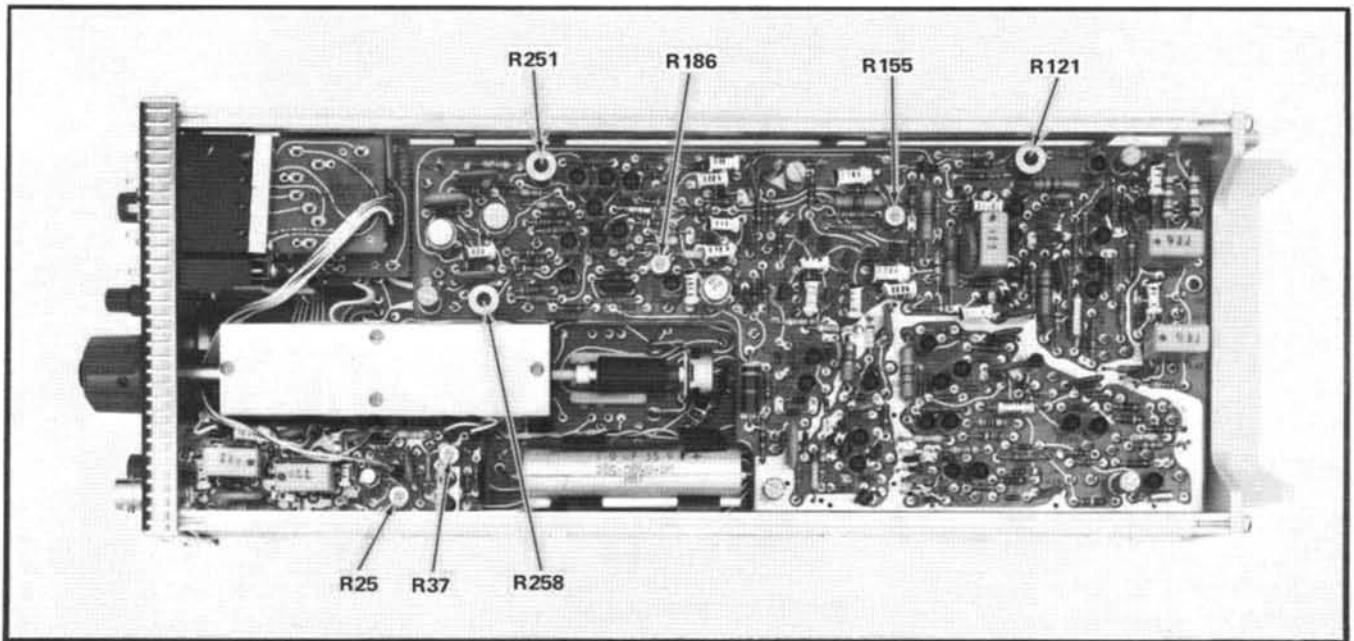

Fig. 5-2. Location of adjustments on Trigger Board.
c. ADJUST—R251 for a stable display. See Fig. 5-2 for location of adjustment.
b. ADJUST—R258 for a stable display. Refer to Fig. 5-2 for location of adjustment.
b. ADJUST—R155 for a stable display. Refer to Fig. 5-2 for location of adjustment. Check for stable triggering over the full 360° range of the LEVEL/SLOPE control.